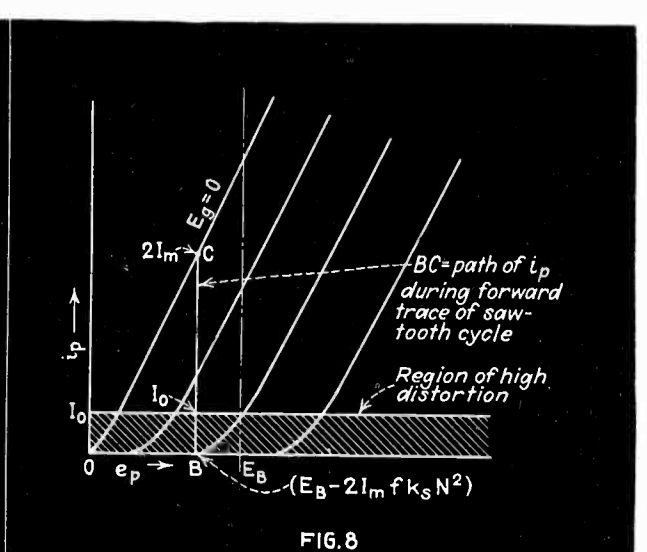

FIG. 8
In applying equation (9) we cannot swing the plate current from $2I_m$ to cut-off as this would introduce considerable distortion and we are forced to limit the minimum plate current to a value I_0 obtained from the tube characteristic curves as shown in Fig. 8. Hence, the actual peak to peak ampere-turns are $N_o(2I_m - I_0)$ and the peak ampere turns are $N_o(I_m - 1/2 I_0)$.